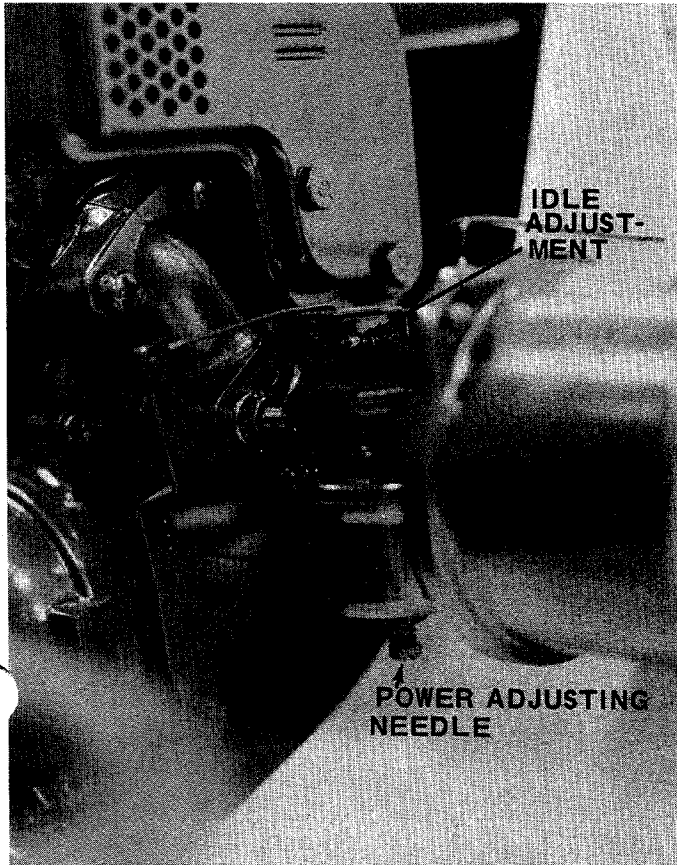

FIGURE 20
CARBURETOR ADJUSTMENTS (See figure 20)
1. Close power adjusting needle (figure 20) by turning to right (clockwise). Close finger tight only. Forcing will cause damage.
3. Close idle adjusting needle (figure 20) by turning to right (clockwise). Close finger tight only. Forcing will cause damage.
7. Hold throttle lever closed or move carburetor control to IDLE or SLOW position and adjust idle adjusting needle until engine runs smoothly proceeding in step six (6) above.